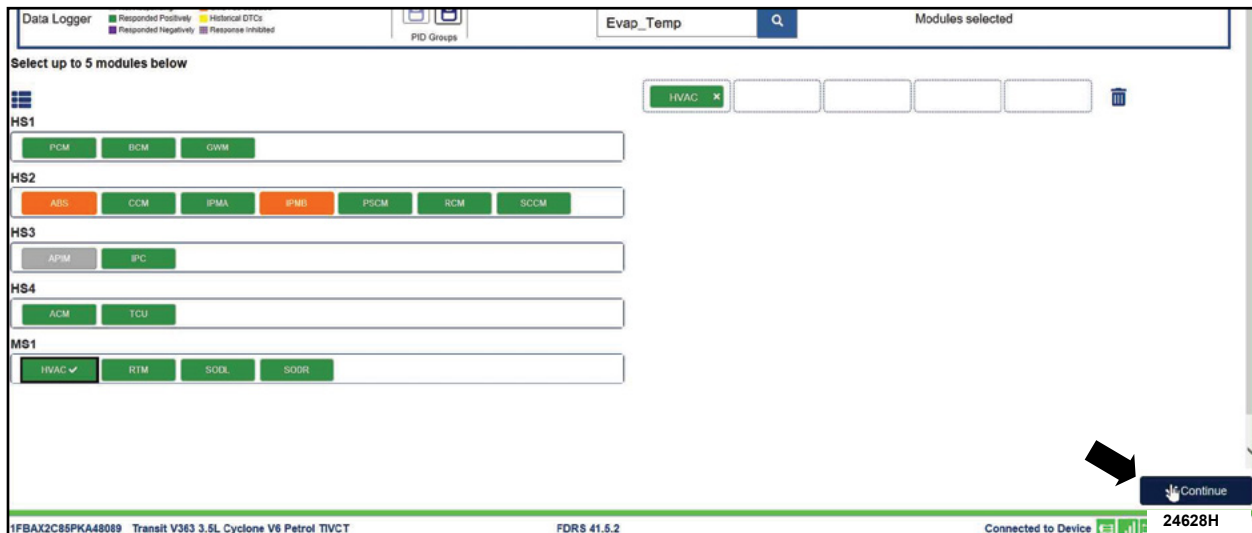

FIGURE 9
18. Select **CONTINUE**. See Figure 9.